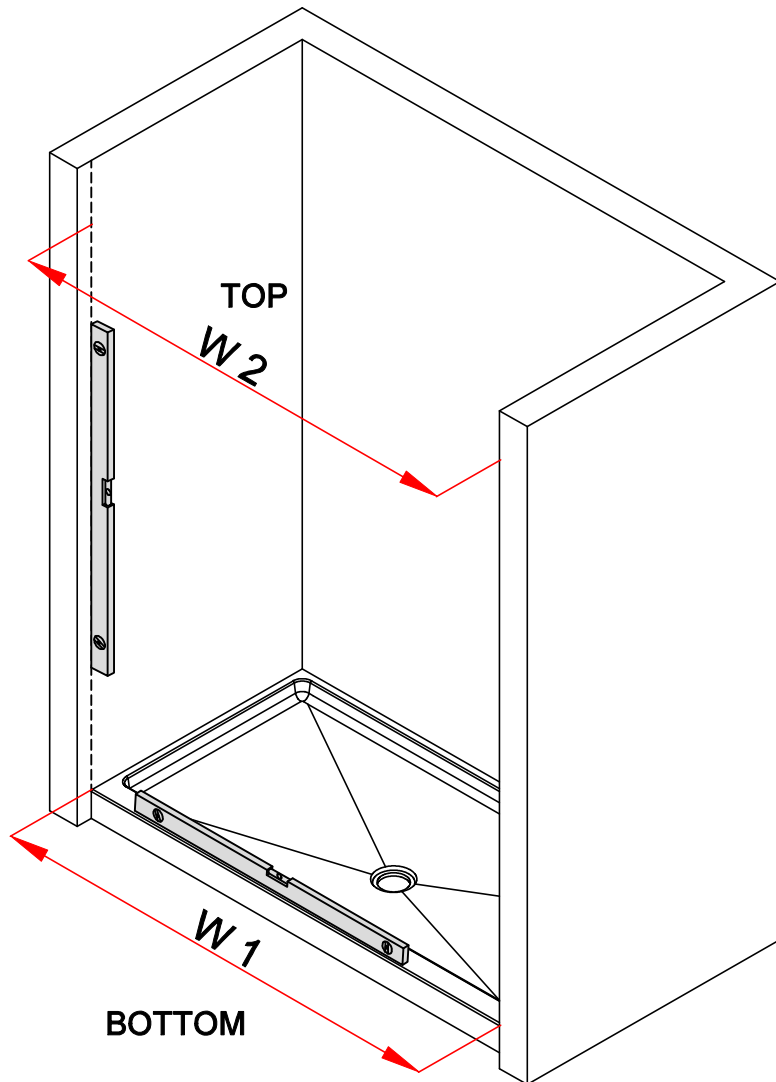

Fig 1
2. Also check the threshold for level and the walls for plumb. (Fig 1)